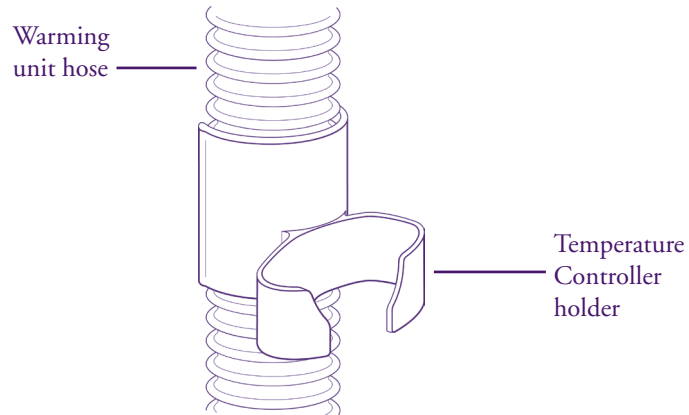

Figure 6. Temperature Controller holder.
1. Press the holder onto the warming unit hose so it is within the patient's reach (see Figure 6).